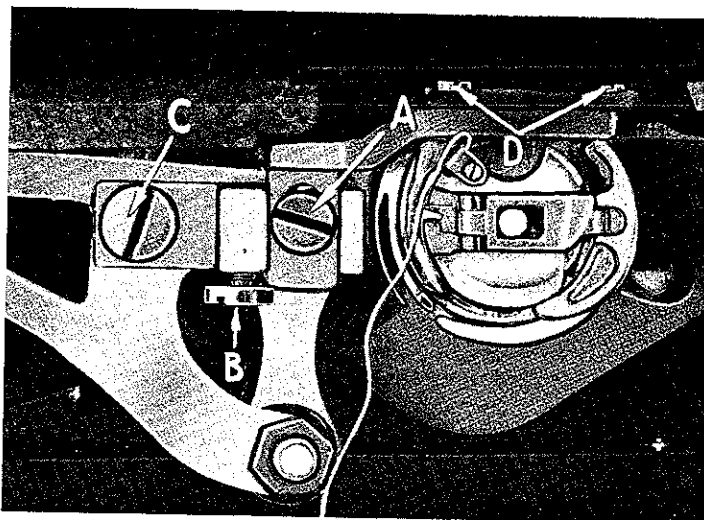

Fig. 14
The feed dog holder attaching screw (A, Fig. 14) should be loosened slightly, and regulating screw (B) should be turned either clockwise, to raise the feed dog, or counterclockwise to lower it. Make sure that the bottom of the shank of the feed dog holder rests against the head of the regulating screw.